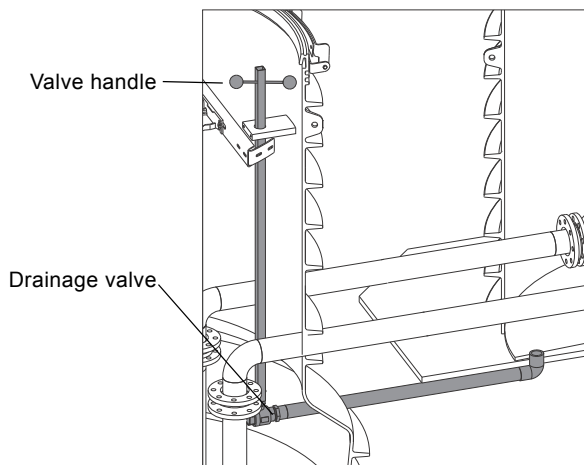

Fig. 32 Draining the valve chamber
1. Open the valve chamber drainage valve by means of the valve handle in the pit in order to empty the sump of the valve chamber. See fig. 32.
7. Close the drainage valve inside the pit. See fig. 32.